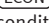

Fig. 92 On the instrument panel: Climatronic controls
- Turn the temperature selector ⇒ page 122, fig. 92 ⑩ to set the desired temperature.
- ① Blower speed control and ON / OFF system.
- ② Blower level indicator
- ③ Outside temperature display
- ④ Defrost windscreen display
- ⑤ Air recirculation display:
- ⑥ Display for air flow direction
- ⑦ Display **AUTO** (automatic operation)
- ⑧ Interior temperature selected display
- ⑨ Display **ECON** (air conditioning off)
- Press the button . The display is visible ⇒ page 122, fig. 92 ⑦.
- Press one of the buttons ⇒ page 122, fig. 92 **13** to **15**, or turn the blower control **1**. The display is switched off **7**.
- Press the button  to switch air recirculation mode on or off. This is ON if the symbol  ⇒ page 122, fig. 92 **5** is displayed on the screen.